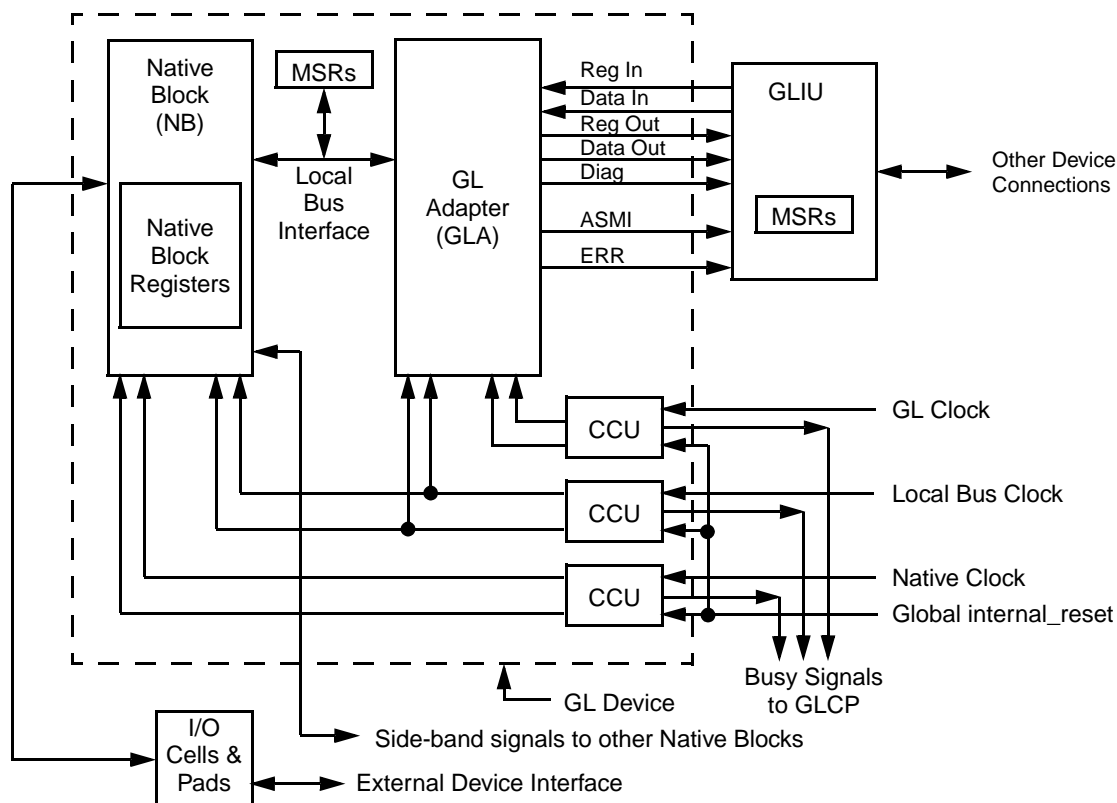

Figure 3-4. Typical CS5535 GeodeLink Device
A typical or “generic” CS5535 GeodeLink Device (GLD) is illustrated in Figure 3-4 along with internal and external connections. The GLD consists of the *Native Block* (NB), *GeodeLink Adapter* (GLA), *MSRs*, and *Clock Control Units* (CCU). Each of these is discussed in the following paragraphs.
The GLA sits between the GLIU and the Local bus. The Local bus is a traditional address/data bus supporting GLA to NB transactions (slave transactions) and NB to GLA transactions (master transactions). However, it is a single transaction bus in that any given slave or master transaction runs to completion before another transaction can start. This is compatible with the NBs listed above (i.e., ACC, ATAC, and DD), which are all single transaction devices. As suggested by Figure 3-4, the GLA contains no registers and is strictly speaking, just a bridge.
A GeodeLink Device with an embedded PCI bus is illustrated in Figure 3-5. Note the similarity with Figure 3-4 "Typical CS5535 GeodeLink Device" on page 55. The only difference is the PCI Adapter (PA) located in the center of the figure. The PA allows a module designed for the PCI bus to be easily embedded in a GeodeLink architecture. It is used to embed the USB core into the GeodeLink architecture.